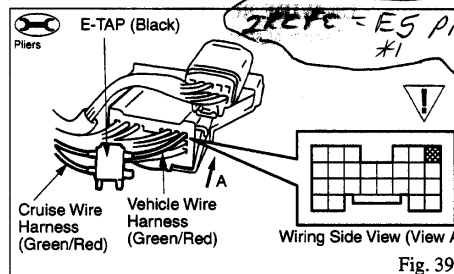

Fig. 39
- (16) Connect the (E) (vehicle speed) E-tap to the vehicle wire harness. (Fig. 39)